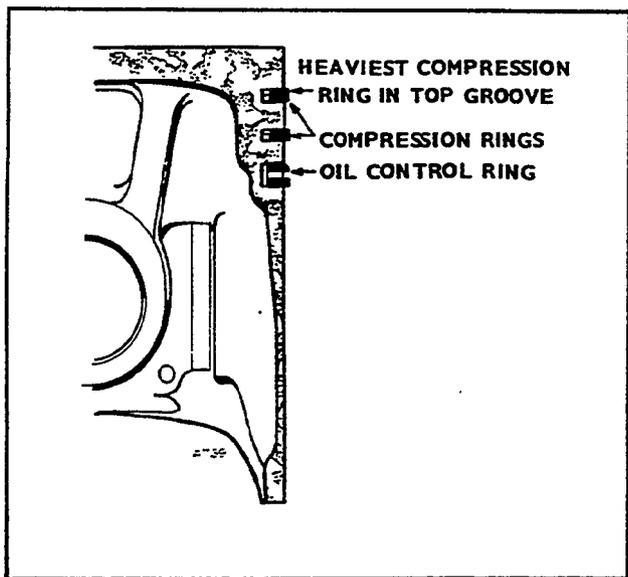

FIGURE 43. PISTON RINGS
3. Install the rings on the pistons starting with the oil control ring (Figure 43). Use a piston ring spreader to prevent twisting or excessive expansion of the ring. Some oil control rings and all compression rings have a dot or the word "top" on one side of the ring to indicate which side faces the top of the piston. Unmarked piston rings can be installed either way. If the oil control ring has an expander, install the expander first and then close until the expander ends butt. The joint should be 180° from the gap of that ring.